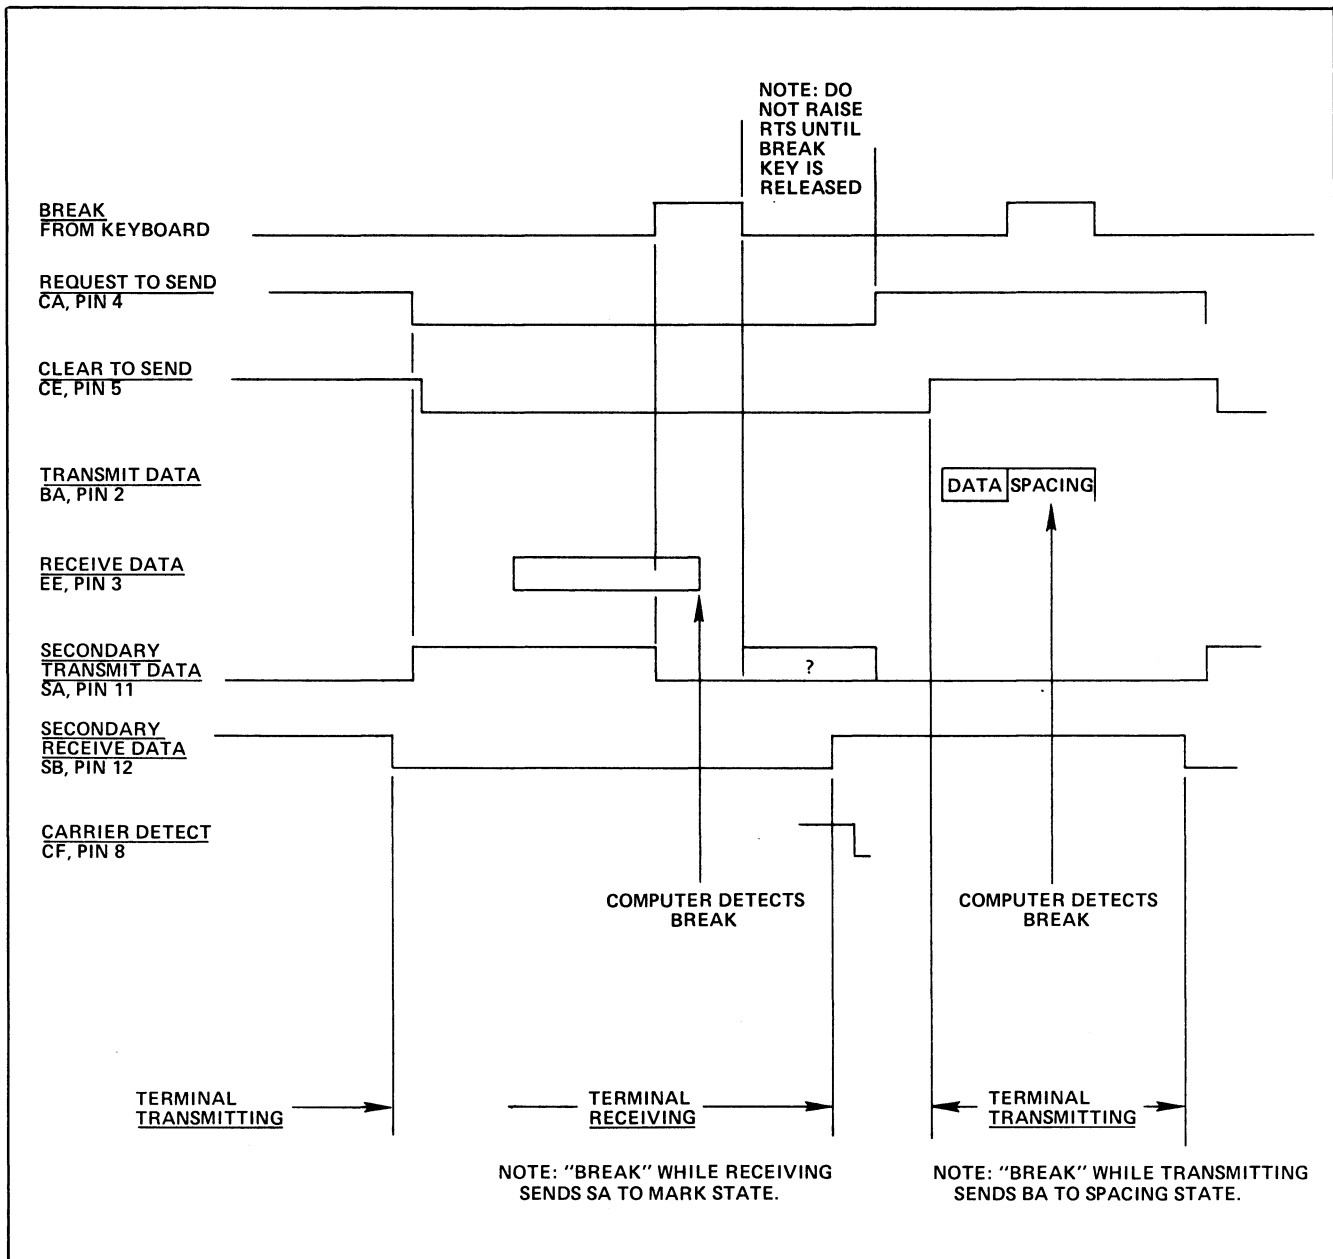

Figure 4-18. Interface Timing for Reverse-Channel Operation
**4.3.16.2 Reverse-Channel Control.** In reverse-channel operation RTS is controlled by SEC RECV DATA (SB) and CARRIER DETECT (CF) from the modem. When SB goes low, RTS is unconditionally reset (figure 4-18), switching the interface to receive data. In normal reverse-channel receive operation, CF is high at this time, causing SEC XMIT DATA to rise.